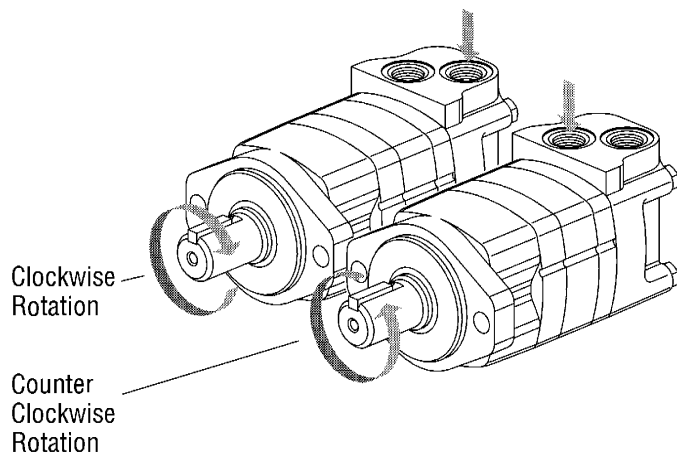

Figure 13
**Timing Step # 3** — Locate any one of the side openings of the valve and align this opening with the open slot of the valve plate that is in line with the largest open pocket of the Geroler. Install the valve by rotating it clockwise until the spine teeth engage (1/2 spine tooth max.). This will provide the proper rotation when pressurized as shown in Figure 13.